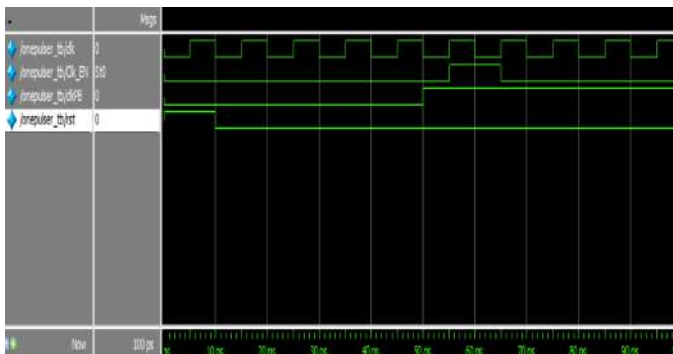

Fig. 5 ModelSim output for one-pulser testbench
- 2) *Testing the design:* Then we wrote a test bench to check our module. testbench code is shown in Fig. 4 and ModelSim output is shown in Fig. 5.